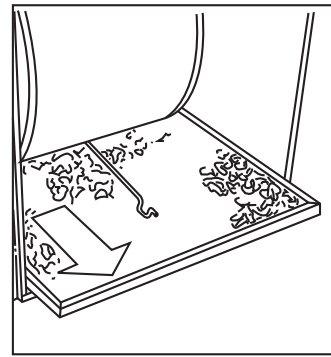

Fig. 12 - Slide Filter Out (Bottom Inlet)
- b. Slide air filter out of furnace. See Fig. 12.